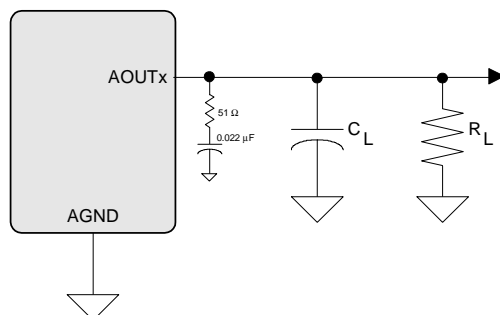

Figure 3. Headphone Output Test Load
(Test conditions (unless otherwise specified): Input test signal is a full-scale 997 Hz sine wave; measurement bandwidth is 10 Hz to 20 kHz; Sample Frequency = 48 kHz and 96 kHz; test load $R_L = 10\text{ k}\Omega$, $C_L = 10\text{ pF}$ for the line output (see Figure 3), and test load $R_L = 16\text{ }\Omega$, $C_L = 10\text{ pF}$ (see Figure 3) for the headphone output.
Test conditions (unless otherwise specified): Input test signal is a full-scale 997 Hz sine wave; measurement bandwidth is 10 Hz to 20 kHz; Sample Frequency = 48 kHz; test load $R_L = 10\text{ k}\Omega$, $C_L = 10\text{ pF}$ (see Figure 3).
Test conditions (unless otherwise specified): Input test signal is a full-scale 997 Hz sine wave; measurement bandwidth is 10 Hz to 20 kHz; Sample Frequency = 48 kHz; test load $R_L = 16\ \Omega$, $C_L = 10\ \text{pF}$ (see Figure 3).
10. See Figure 3. R_L and C_L reflect the recommended minimum resistance and maximum capacitance required for the internal op-amp's stability and signal integrity. In this circuit topology, C_L will effectively move the band-limiting pole of the amp in the output stage. Increasing this value beyond the recommended 150 pF can cause the internal op-amp to become unstable.